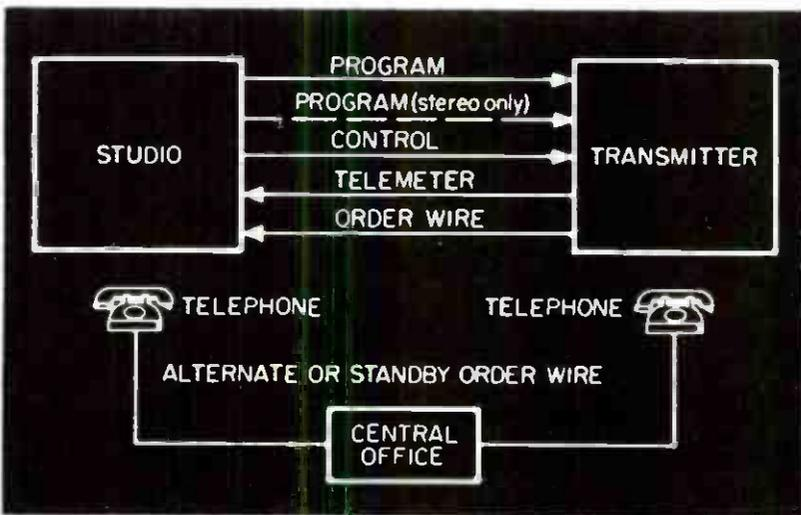

Fig. 1. Remote Control Circuit Requirements.
Four or five circuits are usually required from the transmitter site to the remote control point. As shown in Fig. 1, these include (1) a *control* channel, (2) a *telemetering* channel, (3) an order wire, (4) a program circuit, and, if stereo facilities are required, (5) a second program circuit.